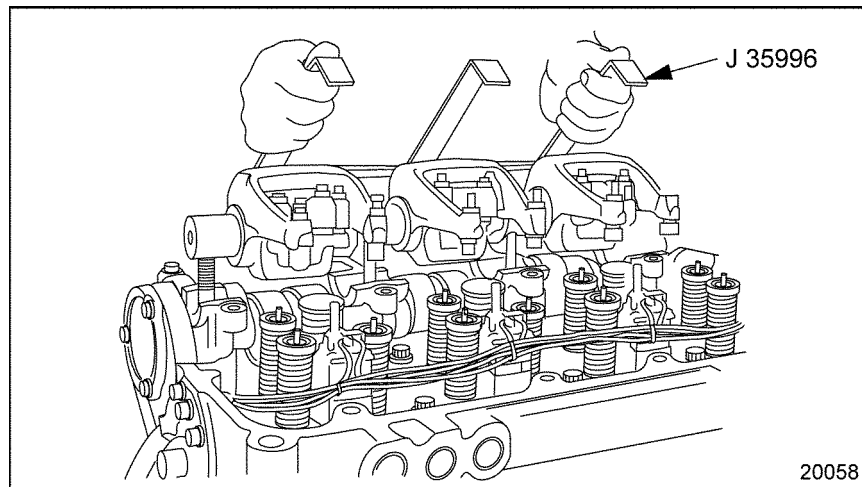

Figure 8-2 Rocker Arm/Shaft Assembly Removal/Installation
5. Remove the three rocker shaft mounting bolts and nut from the front rocker shaft assembly. Using removal tool (J-35996-A), see Figure 8-2, lift the assembly straight up and off of the head and place in a clean area on the bench.